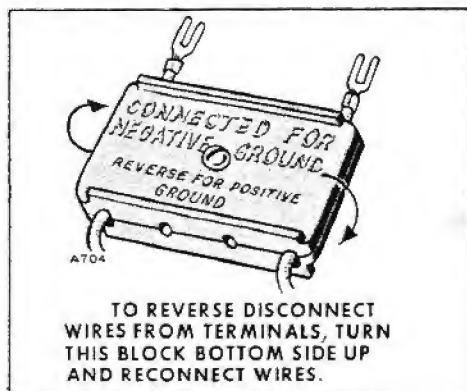
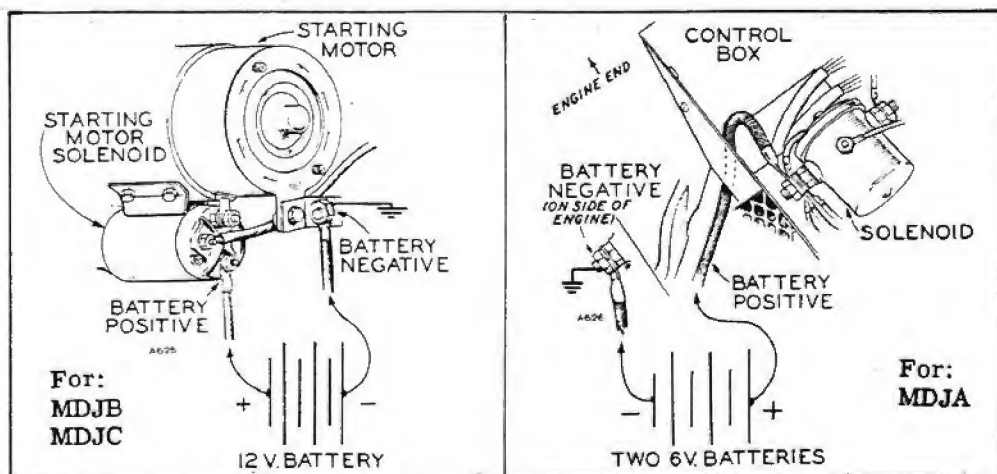

Fig. 5 Polarity Block
Fig. 6 Battery Connections
Refer to the wiring diagram and figure 6. Battery polarity connection must agree with the connection of the rectifier located in the control box. If battery ground must be changed to agree with polarity of other equipment aboard a vessel, then reverse the rectifier connection in the control, Fig. 5.
Provide a 12 volt battery. See DATA TABLE 1 for minimum battery amperes. Connect the battery positive (+) to the starter engaging solenoid terminal post, figure 6. Connect the battery negative (-) to a good ground on the engine.
**BATTERY CONNECTION (Exciter Cranked Plant-Model MDJA). -** Refer to the wiring diagram and figure 6. If battery ground must be changed to agree with other equipment aboard a vessel, reverse the connections to the charge ammeter or remark the correct direction of charge.